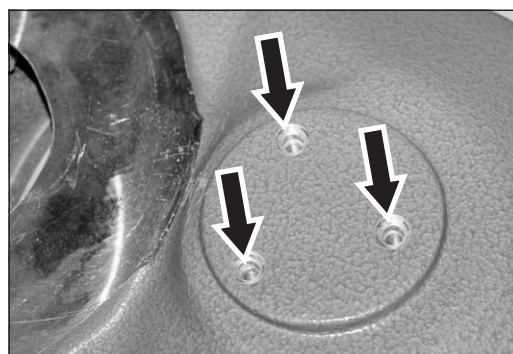

Fig. 41 Pay attention to centered insertion of the sanding plate bearing piece during assembly!
- 3 Rotate the hole pattern of the sanding plate bearing piece so that it fits the hole pattern of the attachment and then insert the three screws (fig. 41).